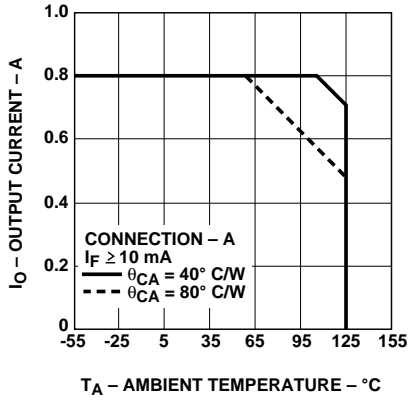
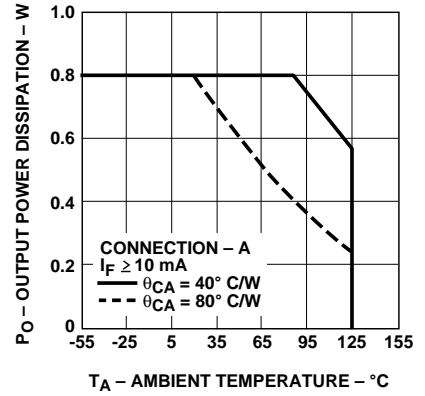

Figure 2. Maximum Average Output Current Rating vs. Ambient Temperature.
Figure 4. Output Power Rating vs. Ambient Temperature.
Average Output Current – Figure 2
Average Output Power Dissipation – Figure 4 .....	800 mW [2]
- For rating, see Figure 4. The output power  $P_O$  rating curve is obtained when the part is handling the maximum average output current  $I_O$  as shown in Figure 2.
IN ORDER TO DETERMINE  $V_{OUT}$  CORRECTLY, THE CASE TO AMBIENT THERMAL IMPEDANCE MUST BE MEASURED FOR THE BURN-IN BOARDS TO BE USED. THEN, KNOWING  $\theta_{CA}$ , DETERMINE THE CORRECT OUTPUT CURRENT PER FIGURES 2 AND 4 TO INSURE THAT THE DEVICE MEETS THE DERATING REQUIREMENTS AS SHOWN.
Rating curves are shown in Figures 2 and 4. Figure 2 specifies the maximum average output current allowable for a given ambient temperature. Figure 4 specifies the output power dissipation allowable for a given ambient temperature. Above  $55^{\circ}\text{C}$  (for  $\theta_{CA} = 80^{\circ}\text{C}/\text{W}$ ) and  $107^{\circ}\text{C}$  (for  $\theta_{CA} = 40^{\circ}\text{C}/\text{W}$ ), the maximum allowable output current and power dissipation are related by the expression  $R_{SS} = P_O(\text{max}) / (I_O(\text{max}))^2$  from which  $R_{SS}$  can be calculated. Staying within the safe area assures that the steady-state junction temperatures remain less than  $150^{\circ}\text{C}$ . As an example, for  $T_A = 95^{\circ}\text{C}$  and  $\theta_{CA} = 80^{\circ}\text{C}/\text{W}$ , Figure 2 shows that the output current should be limited to less than
610 mA. A check with Figure 4 shows that the output power dissipation at  $T_A = 95^\circ\text{C}$  and  $I_O = 610$  mA, will be limited to less than 0.35 W. This yields an  $R_{SS}$  of 0.94  $\Omega$ .